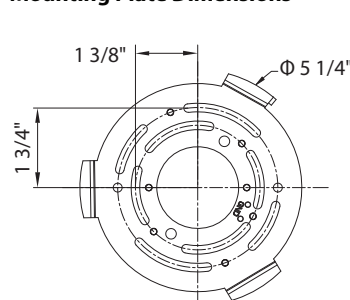
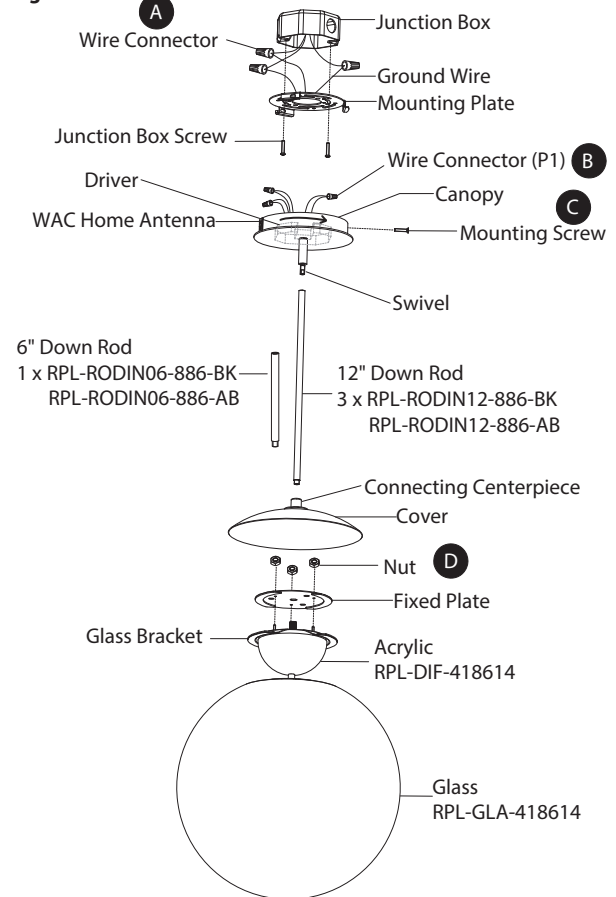

Fig. 1
Fig. 3 Driver Wiring
MOUNTING THE FIXTURE (Fig. 1 Fig. 3)
(Fig. 3). Rewire the cable with wire connectors (P1) (B).